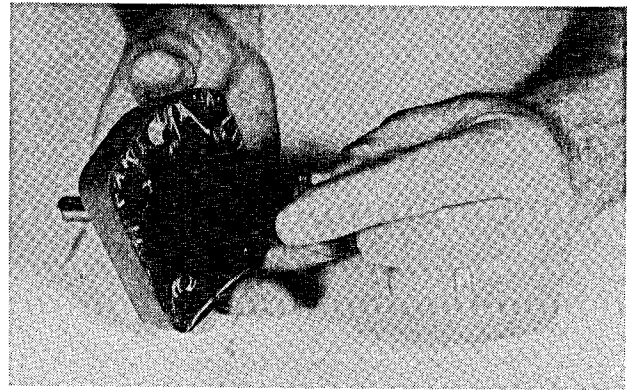

Figure 10
3. Remove the two Allen head bolts which hold the valve body to the mounting plate (Figure 10).